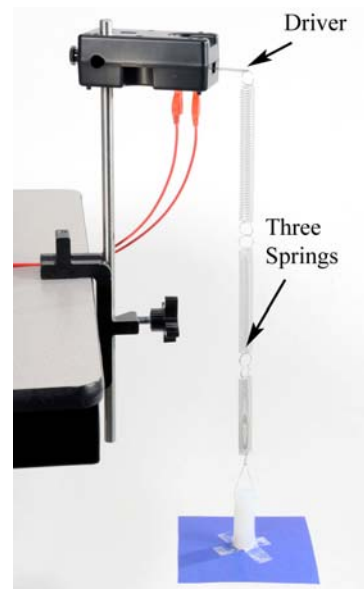

Figure 3. Three Short Weak Springs
7. Select the three short, weak springs from the Spring Set. Suspend the cylinder with paper damper from the driver of the String Vibrator using the three springs in series as shown in Figure 3.